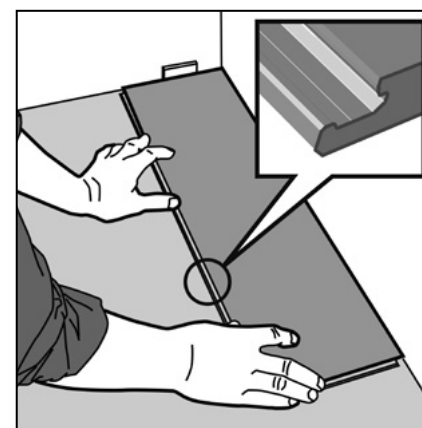

Figure 21 First plank, first row
- > The plank are laid without adhesive. Start to lay the floor in the left-hand corner of the room with the lower male profile facing towards you (fig. 21).